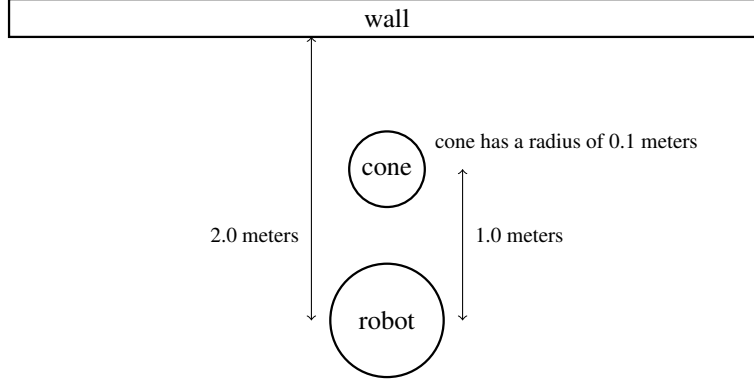

Figure 2: A diagram showing the simulated and physical test environments
1. Modify your simulator to reflect the geometry illustrated in Figure 2. In your GUI, collect 10.0 seconds of data recorded at 10.0 Hz. Assume a $\sigma_{hit} = 0.1$ for your beam model, the minimum and maximum laserscan sensor angle is $\pm 45^\circ$ and resolution of the sensor is 64 beams, $\alpha_1, \alpha_2, \dots, \alpha_6 = 0.01$ for your velocity motion model. In Matlab, plot the range measurement as a function of time and the beam angle.
2. Now test your GUI with a physical setup in the laboratory that reflects the same environment as in Figure 2. Again, collect 10.0 seconds of data recorded at 10.0 Hz and plot the range measurement as a function of time and the beam angle in Matlab.